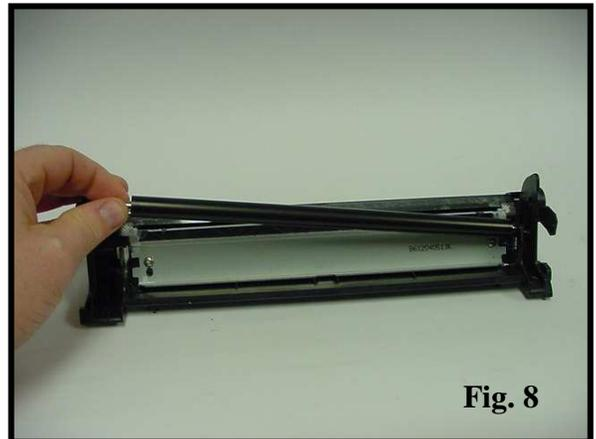

Fig. 8
8. Remove the PCR from the cartridge (Fig. 8).